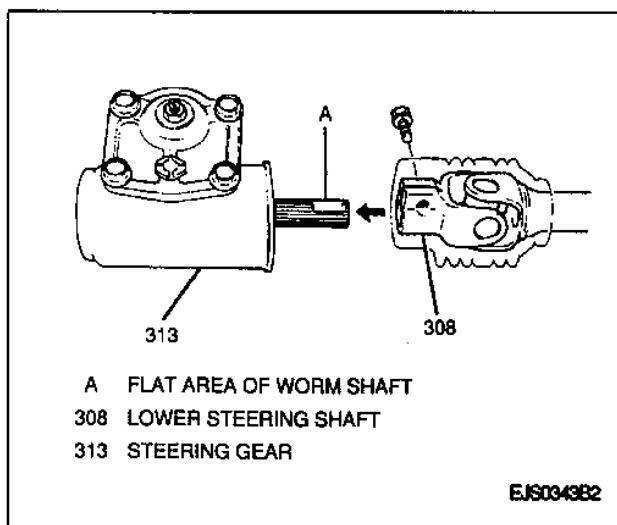

Figure 4—Lower Steering Shaft-to-Steering Gear Coupling
6. Lower steering shaft from manual steering gear by removing pinch bolt (Figure 4).
3. Lower steering shaft to steering gear, aligning shaft flats at the coupling. Secure with pinch bolt (Figure 4).